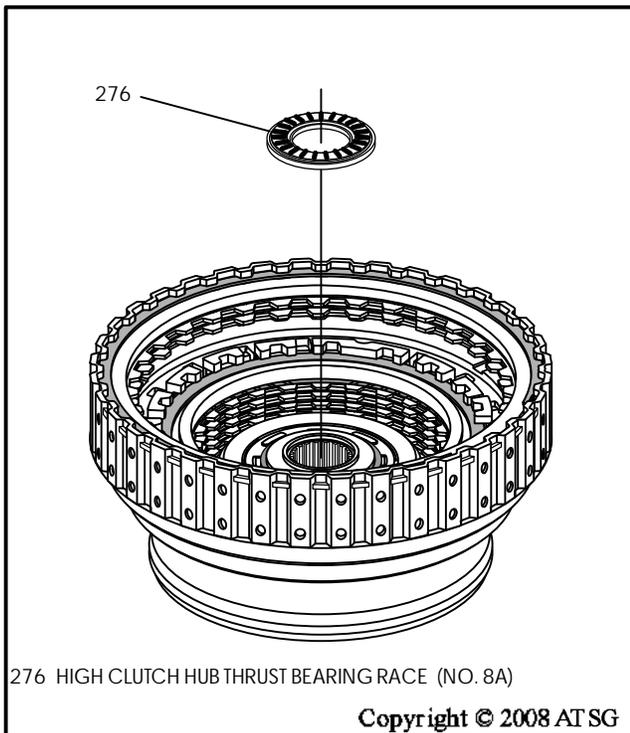

Figure 143
- 23. Install the number 8 thrust bearing inside the high and reverse clutch housing, as shown in Figure 143, and retain with a small amount of Trans-Jel®.